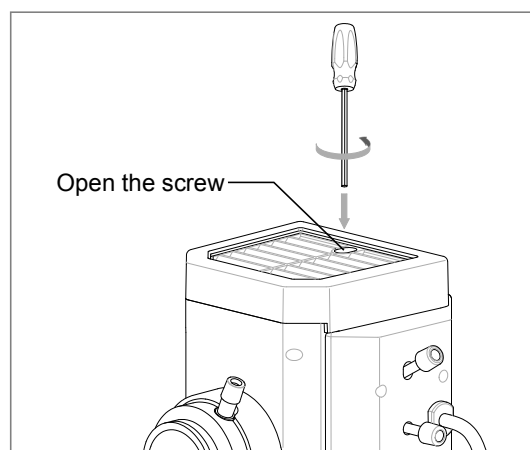

Fig. 8-7
8.4.2 With wrench F16 to insert the upper elliptical hole on the light box, unscrew the light box screw. (Fig. 8-7)